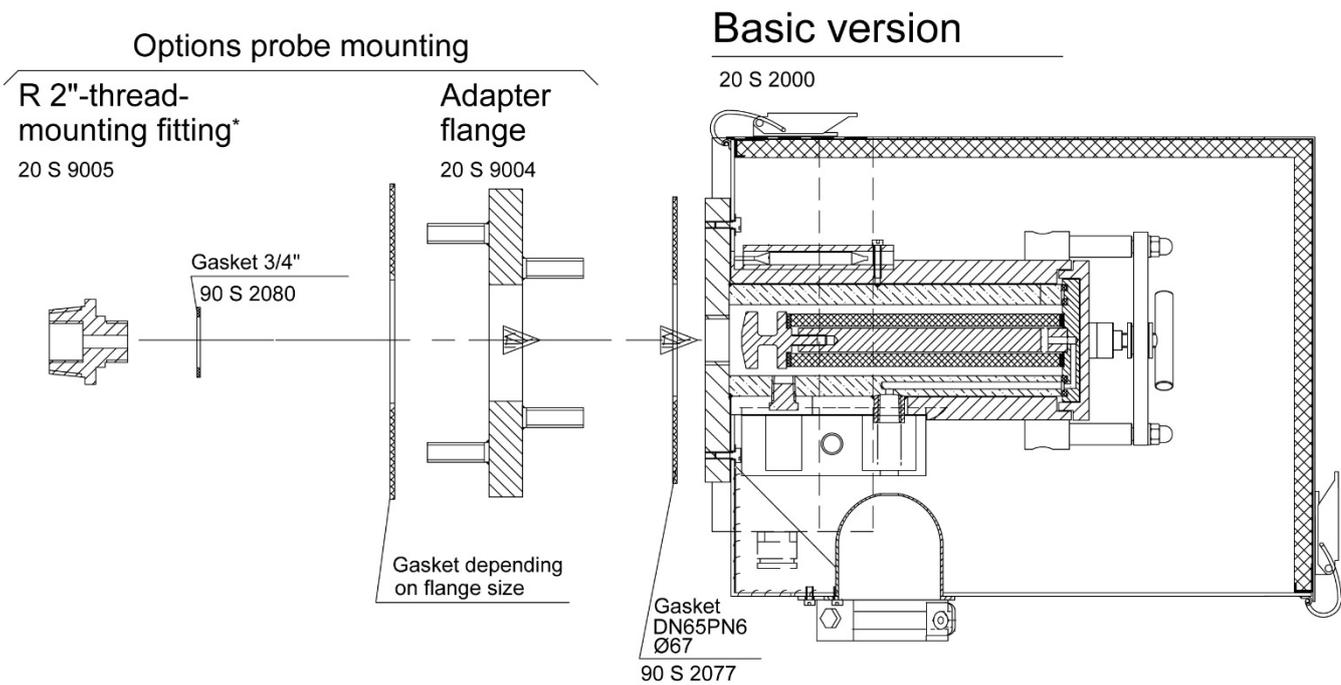
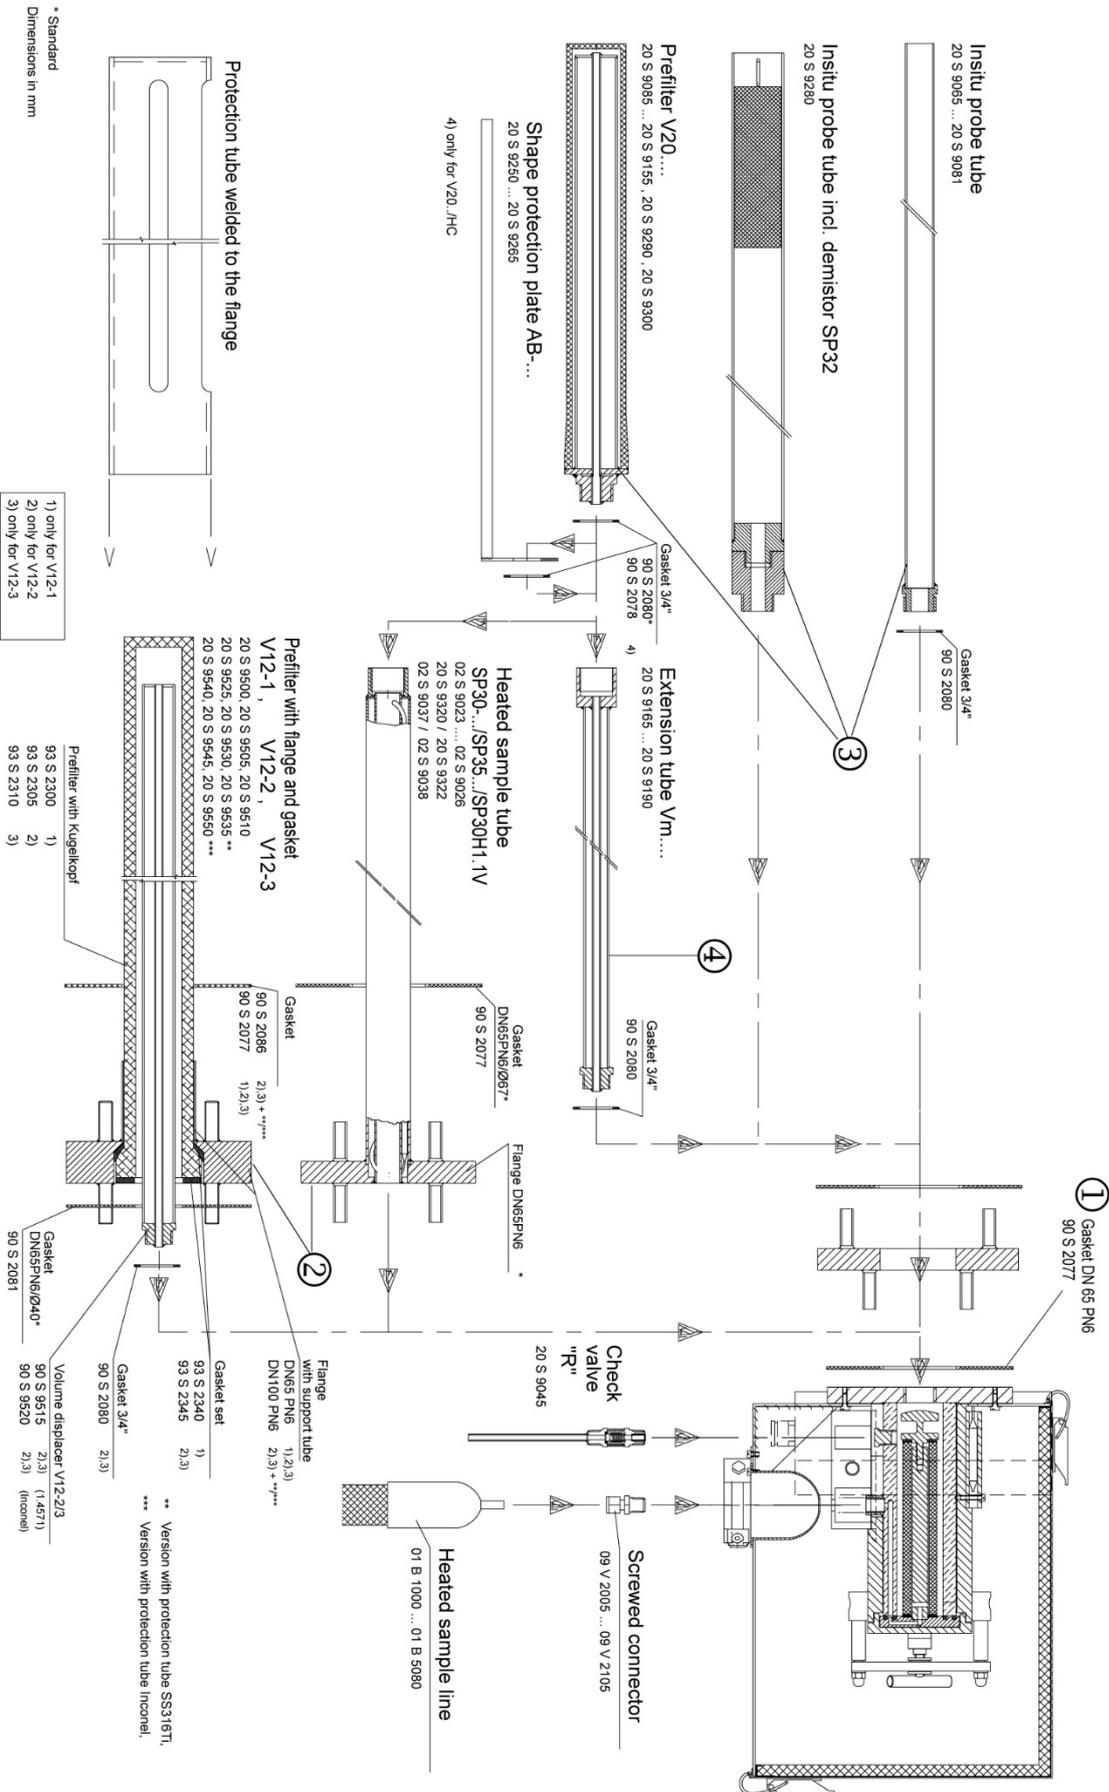

Figure 2 Mounting possibilities SP2000..., SP2300-H, SP2400-H
Figure 6 Mounting of sample tube or pre-filter
1. Insert flange seal ① (Figure 6) between sampling flange and probe flange.
2. If the heated probe tube type **SP30/35** or the ceramic pre-filter type **V12** is used, then the probe is to be screwed to their flange ② (Figure 6)(with welded threaded bolt). First insert the flange seal between the two flanges.
3. If the probe connection does not correspond to the standard flange connection DN 65 PN 6, then the optionally supplied adapter flange (Figure 2 and Figure 6) should be mounted to the probe in the same way.
5. Screw either the probe tube or pre-filter ③ (Figure 6) with thread G3/4"o directly or using an extension tube ④ with the ¾" flat gasket into the ¾" inner thread of the flange of the probe and tighten.